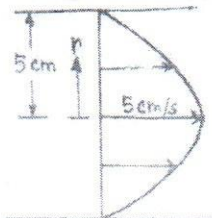

Figure 2
- 2 (a) Write short notes on : (5)
- (b) The velocity distribution in a 5 cm radius pipe is given by Figure 2 (10)